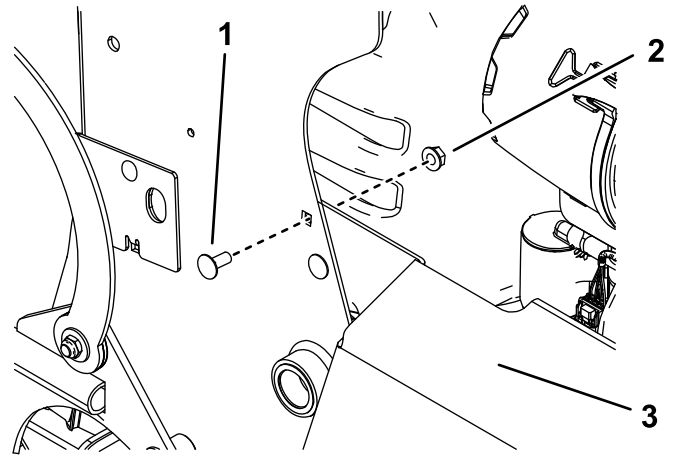

Figure 6
2. Remove the top carriage bolt and nut securing the muffler guard to the machine (Figure 6).